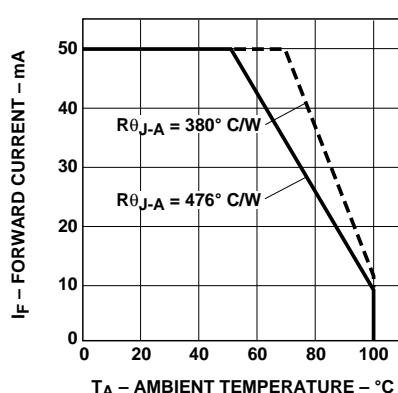

Figure 4. Maximum Forward Current
3. Derate linearly as shown in Figure 4.